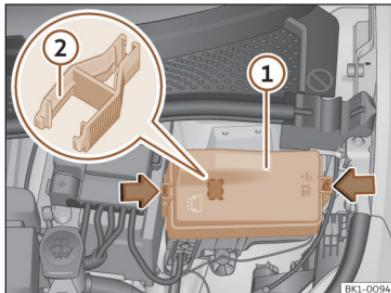

Fig. 193 In the front compartment: fuse box cover.
- Press the locking tabs to unlock the fuse box cover >>> **Fig. 193 ①**.
In the fuse box there may be plastic tweezers for removing fuses >>> **Fig. 193 ②**.